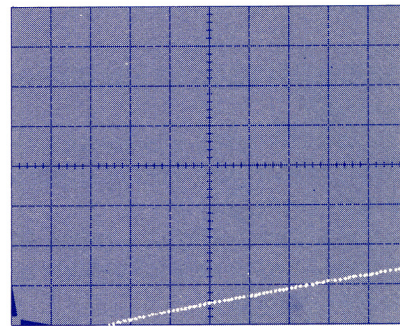

Figure 1-3. Display of load regulation.
- 5) Position for easy reading of display — Reset VERT UNITS/DIV so trace crosses bottom graticule line at point near maximum rated load current on horizontal axis. [7.5 divisions representing 1.5 A]. See Figure 1-3. Then use OUTPUT VOLTAGE COMPARISON dial to make fine adjustment so trace crosses bottom graticule line exactly at rated load current point. **50 63**
Figure 1-4. Load Regulation Test. Trace ① is same display as obtained in step 5, Figure 1-3. Trace ② is display of regulator output variation over low end of load range.